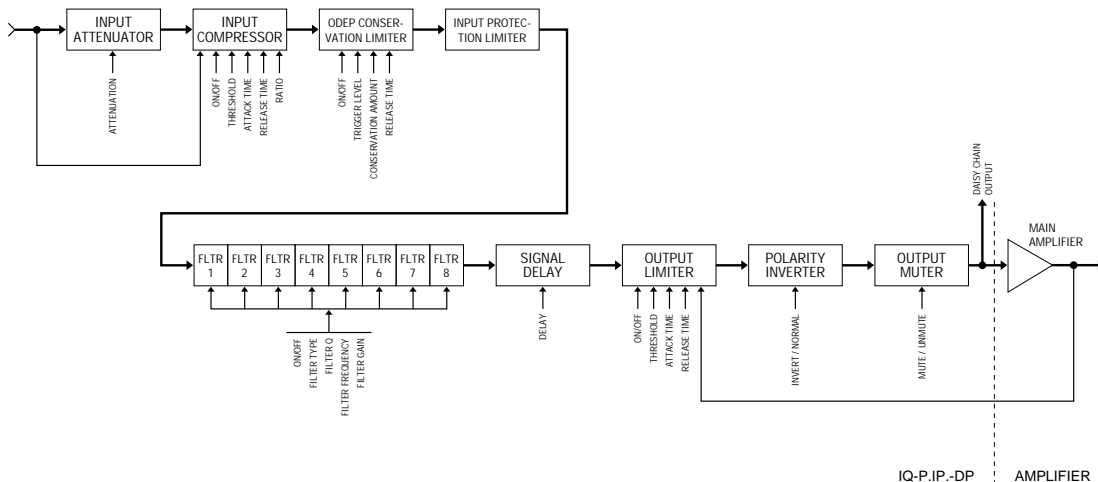

Fig. 5.2 IQ-P.I.P.-DSP Audio Signal Flow Block Diagram
5.1.2 Signal Flow Processing (see Figure 5.2)